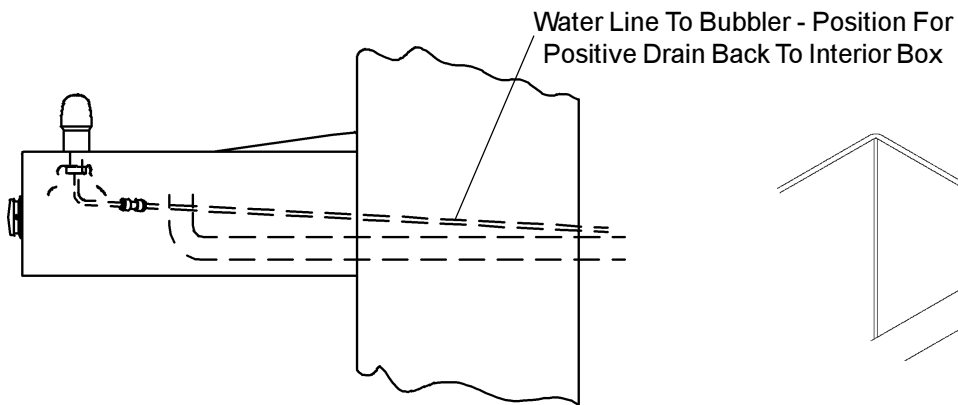

FIG. 5
4. Connect water line from fountain bubbler into freeze resistant box. The connection to the box uses a quick connect water fitting. Position the water line, in the fountain, to drain back into interior mounted box. **NOTE: TRIM WATER SUPPLY TUBING TO APPROPRIATE LENGTH, TO ALLOW FOR POSITIVE WATER FLOW.** Any water left standing, in the exterior line, can freeze. See Figure 5